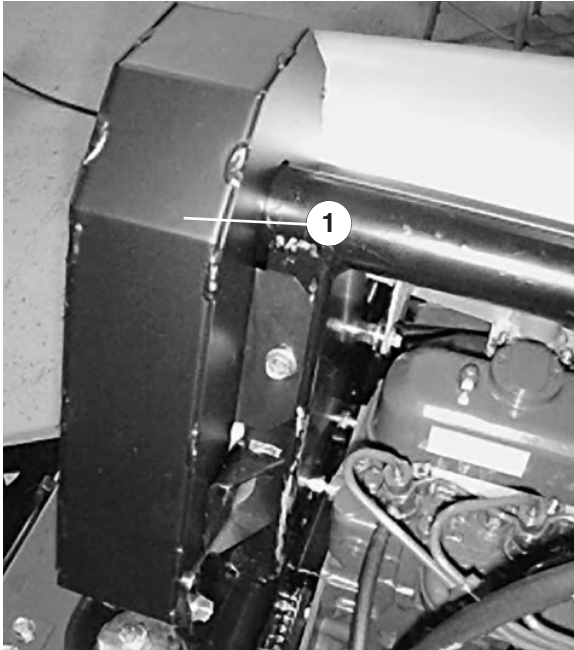

Figure 34
2. Remove the capscrews (5) securing the fan belt guard and remove the guard (Fig. 34).
5. Install the fan belt guard and secure it with capscrews (Fig. 34). Close and latch the hood.
4. Install the fan belt guard and secure it with capscrews (Fig. 34). Close and latch the hood.